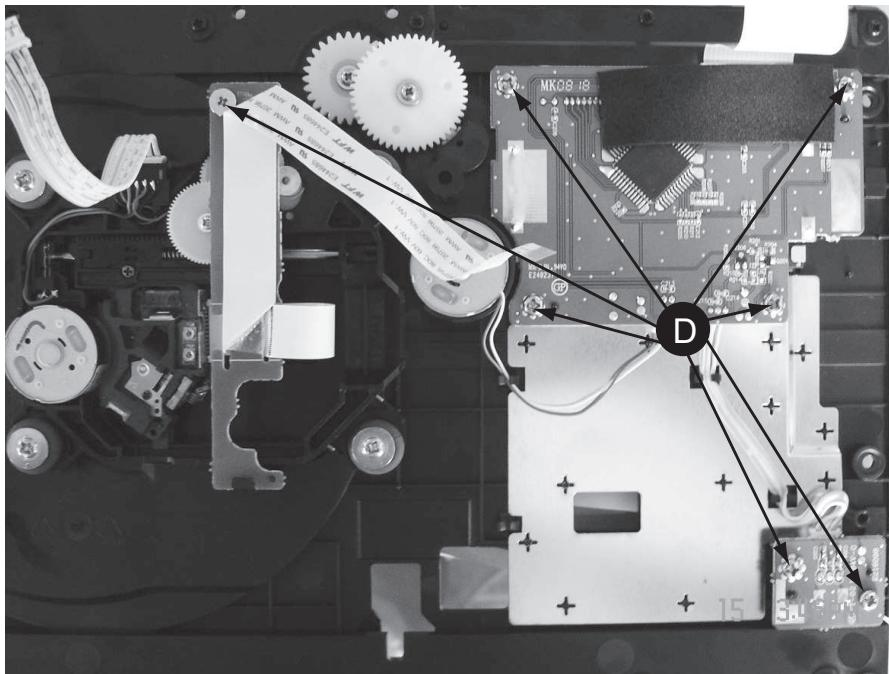

Figure 6
- 1) Loosen 7 screws "D" to remove the VFD board as shown in figure 6.